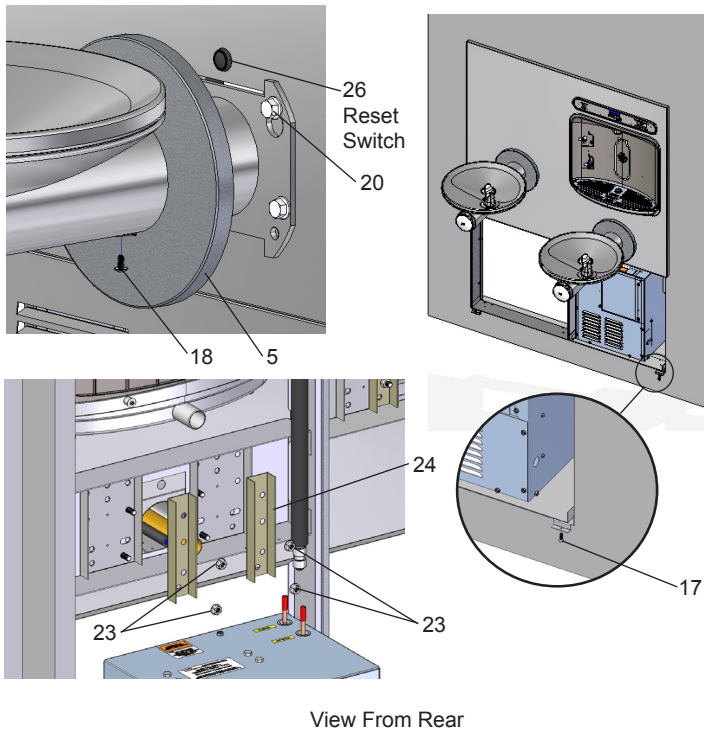

Figure 4 - Fountain Installation
7. **Install** fountains with (8) 5/16-18 HHMS, (8) 5/16-18 nuts & (4) support brackets (provided) (Fig 4). Connect the ¼" water lines from each fountain to the remaining openings on the tee at the remote chiller (cut lines to fit as needed), (Test fit refrigerated panel to make sure there is a tight joint between it & the main panel before fully tightening mounting screws.)
8. **Install** reset switch for bottle filler (Fig 4). Connect the switch wire to the extension wire on the back of the bottle filler. Wrap up the excess cord.
16. **Install** the bottom panel, tighten screws (Fig 4).